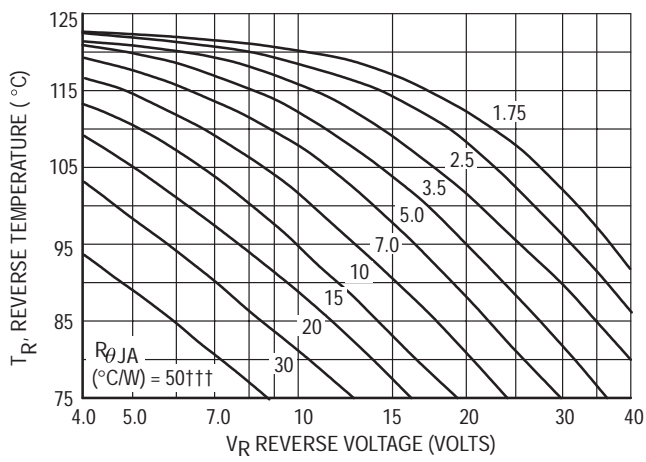

Figure 3. Maximum Reference Temperature – 1N5831
Step 2. Find T_R from Figure 3. Read T_R = 113°C